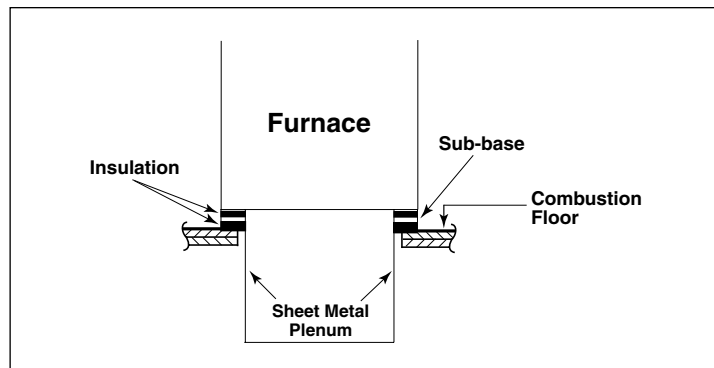

Figure 3. Typical Installed Furnace on Sub-base Plenum
1. Check the alignment of the insulation strips after locating furnace. **Note:** Insulation prevents air leakage between plenum and furnace to reduce combustible floor temperatures around the sub-base. (See Figure 3.)